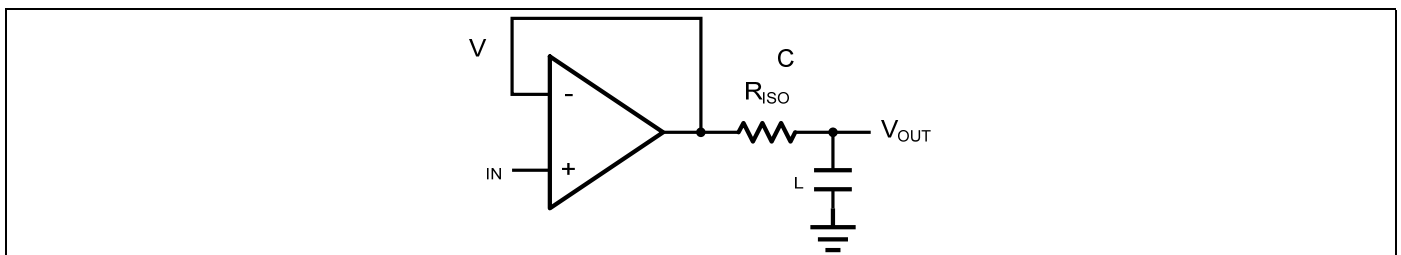
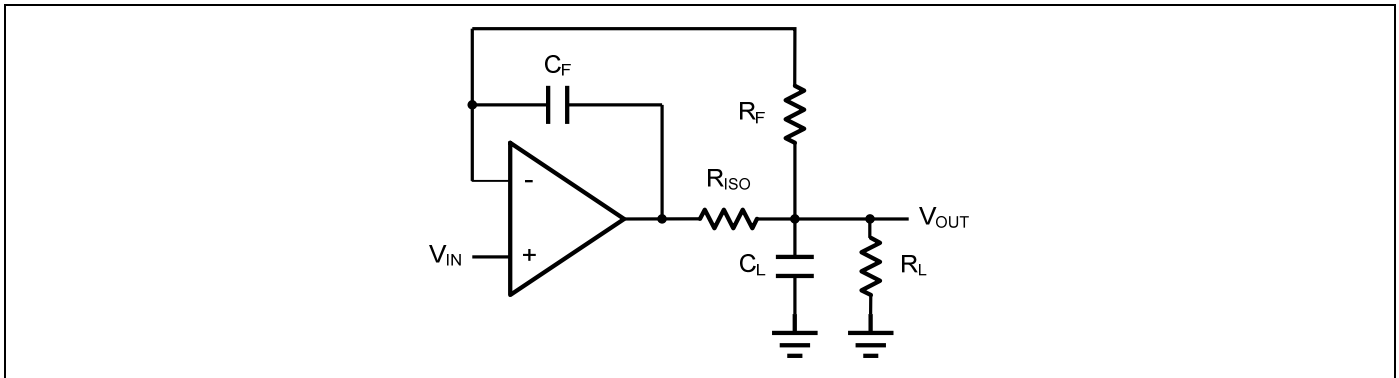

Figure 2 Indirectly Driving a Capacitive Load Using Isolation Resistor
Figure 3. Indirectly Driving a Capacitive Load with DC Accuracy
The WMCP600X family is optimized for bandwidth and speed, not for driving capacitive loads. Output capacitance will create a pole in the amplifier's feedback path, leading to excessive peaking and potential oscillation. If dealing with load capacitance is a requirement of the application, the two strategies to consider are (1) using a small resistor in series with the amplifier's output and the load capacitance and (2) reducing the bandwidth of the amplifier's feedback loop by increasing the overall noise gain. Figure 2 shows a unity gain follower using the series resistor strategy. The resistor isolates the output from the capacitance and, more importantly, creates a zero in the feedback path that compensates for the pole created by the output capacitance.
The circuit in Figure 3 is an improvement to the one in Figure 2. R_F provides the DC accuracy by feed-forward the V_{IN} to R_L . C_F and R_{ISO} serve to counteract the loss of phase margin by feeding the high frequency component of the output signal back to the amplifier's inverting input, thereby preserving the phase margin in the overall feedback loop. Capacitive drive can be increased by increasing the value of C_F . This in turn will slow down the pulse response.